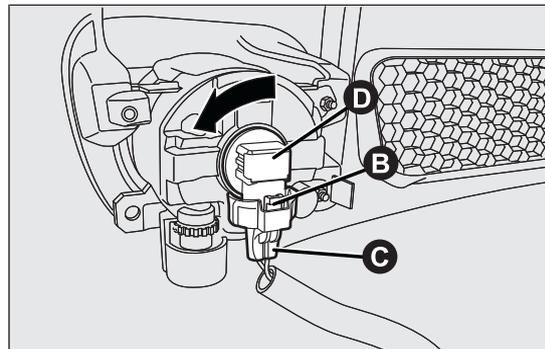

fig. 116
- adjust the clip B fig. 116 and disconnect the electrical connector C;